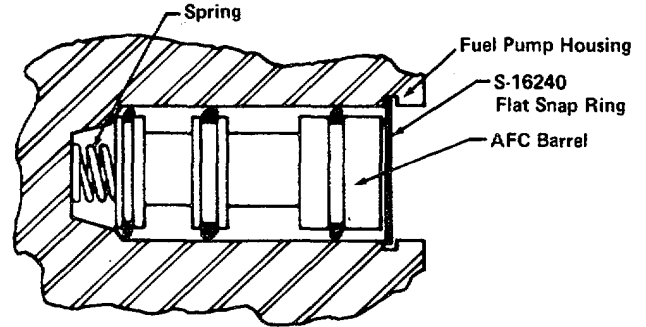

Figure 16G-21. AFC Barrel, with Spring, in Fuel Pump Housing
8. Side plunger and piston/bellows assembly into barrel, Figure 16G-18.
10. Line up bellows holes with housing and cover plate holes, install capscrews and washers. Capscrews are to be tightened to 30 to 35 in-lbs (3.4 to 4.0 N.m) torque after setting AFC on test stand, Figure 16G-17.